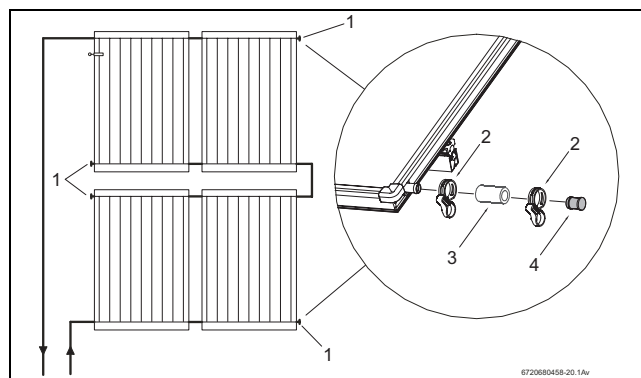

Fig. 56 Fitting the pre-assembled dummy plugs
Use the dummy plugs to close up any collector connections not in use (Fig. 56, [1]).
- Insert the 55 mm solar hoses (Fig. 56, [3]) with the pre-assembled dummy plug onto the two free connections.